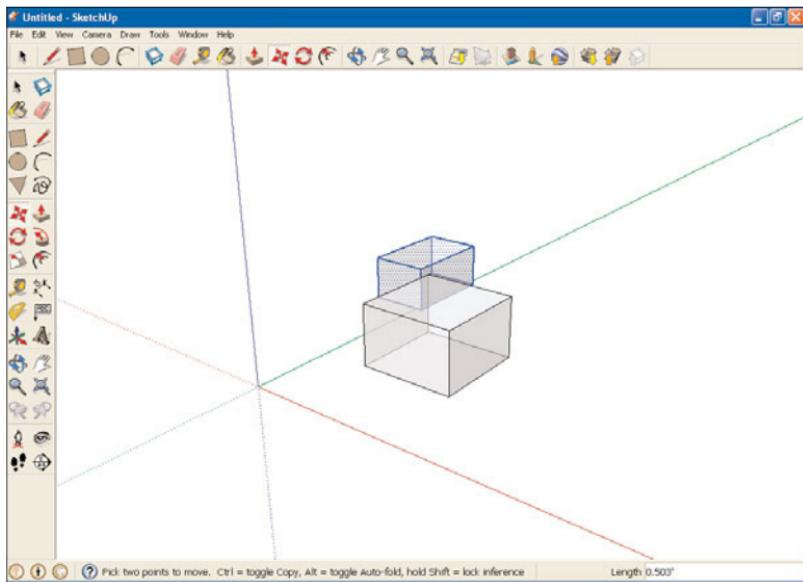

FIGURE 9.2 Using X-ray view.
10. Select the **X-ray** item in the submenu. This turns on X-ray viewing and makes all objects “transparent,” as you can see in Figure 9.2.